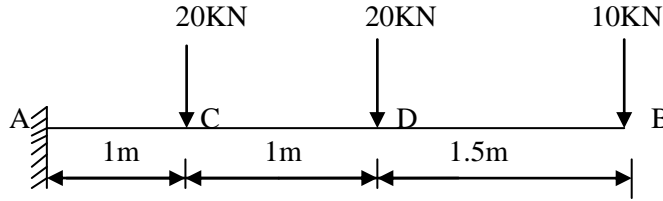

Figure 2.
- b) Draw the bending moment and shear force diagrams for the cantilever beam shown in figure 2. 10